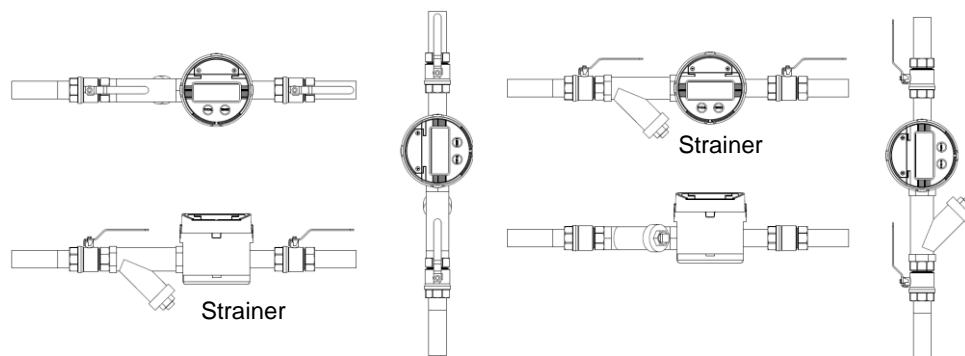

Figure 1: Meter installation
- Install the meter along the meter shafts in a horizontal plane (see figure 1).